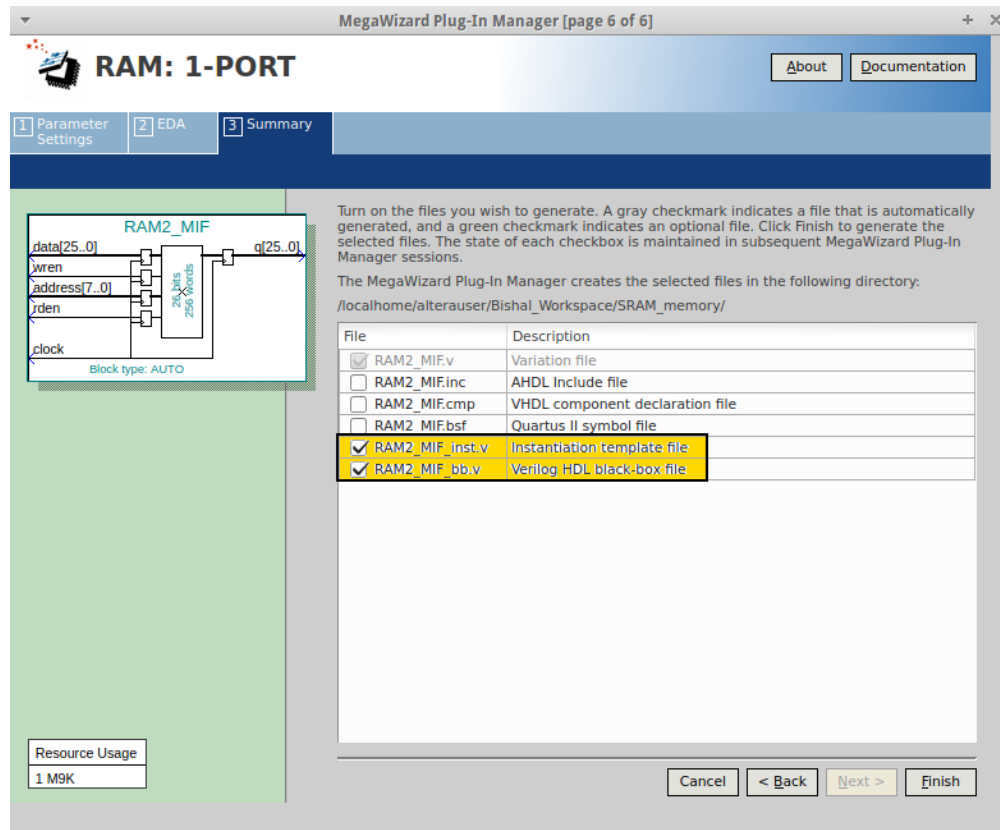

Figure 6: Megawizard RAM: 1-PORT Configuration Final Step.
5. The last page, i.e. 6 of 6 on MegaWizard, make sure the last two options are checked as shown in Figure 6. Click Finish. After successfully creating the memory block you will be asked if you would like to add it to your project, click YES and you are ready. Now you just need to instantiate the module in your main Verilog file with valid signals.